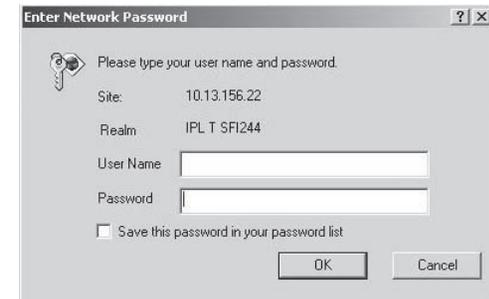

Figure 4-8 — Web server Password window
2. Enter the IP address of the unit (see *IPL T interface configuration* in chapter 3) in the address field at the top of the screen and press the Enter key. The Password window (figure 4-8) is displayed if a password has been set (this
4. Once passwords have been set, you will be required to enter a password (figure 4-8) whenever you log on to the unit.